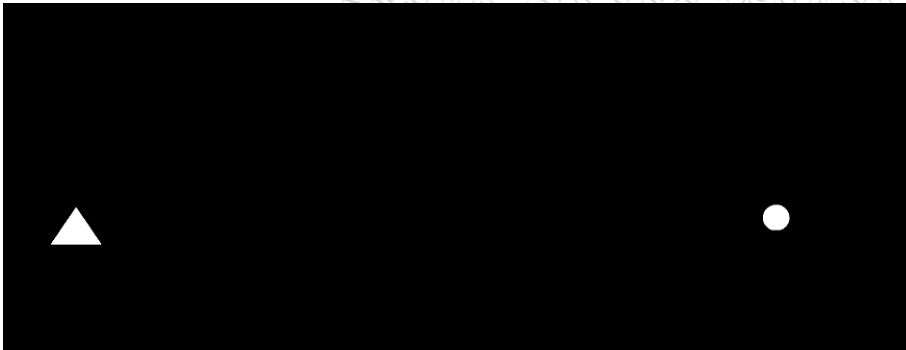

Figure 4
- B) Draw the influence line diagram for the forces in the members  $L_0U_1$ ,  $U_1U_2$ ,  $U_2U_3$ ,  $L_0L_1$ ,  $L_1L_2$ ,  $L_2L_3$ ,  $U_1L_1$ ,  $U_2L_2$ ,  $U_3L_3$ ,  $U_1L_2$  &  $U_2L_3$ , of the Through type symmetric truss as shown in figure 4. Determine maximum forces in these members when unit load traverses the span of 48 m.